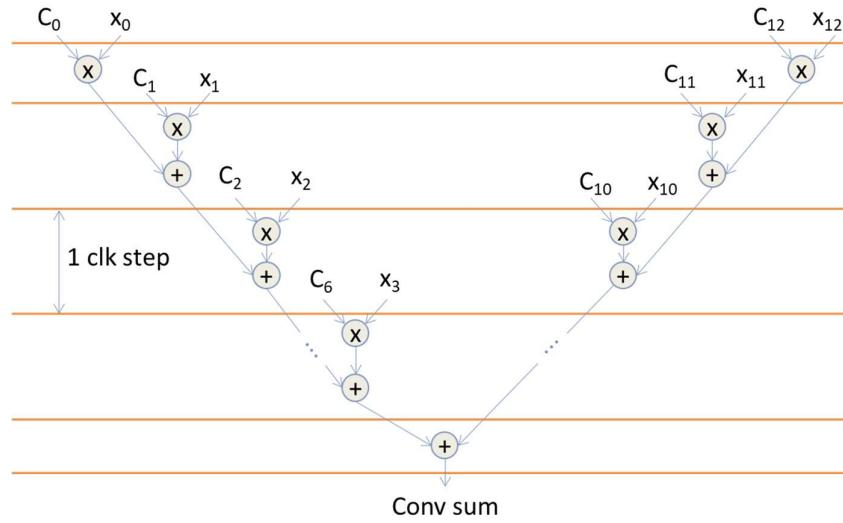

Figure 6. Partially parallel FIR filter
In this lab, you are required to implement an asymmetric partially parallel FIR filter. Save your code in `IL2225_lab/lab1/partially_parallel_fir/rtl`. The architecture of the partially parallel FIR filter is shown in Figure 6.
**Question 5:** How many adders and multipliers are there in the critical path of the FIR filter with the architecture shown in Figure 6?